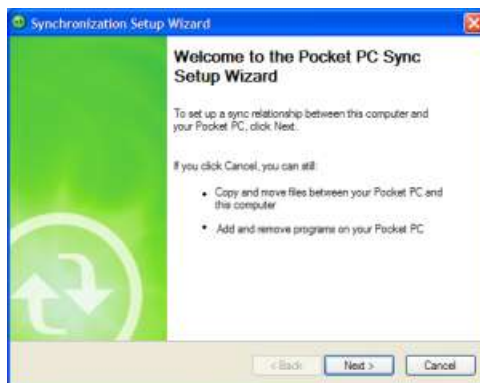

Figure 28: Pocket PC Sync Setup Wizard.
2. Wait for ActiveSync to prompt you with the Pocket PC Sync Setup Wizard. Select **Cancel** as you do not want to establish a sync relationship between the PDA and your computer (Figure 28).